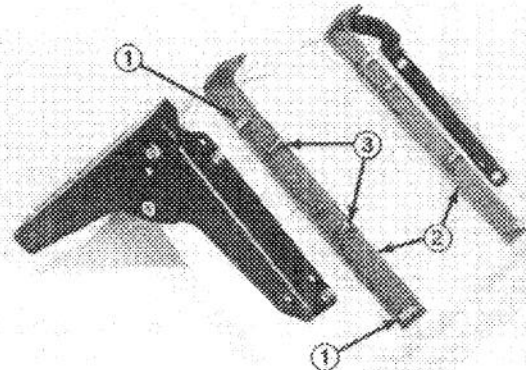

Figure 2
1. Aligning outside mounting holes of seat mounts with mounting holes in seat, position two (2) capscrews and lockwashers for each seat spring thru seat mounts as shown in Fig. 2. Secure each seat mount, capscrews and lockwashers to seat with two (2) capscrews and lockwashers (Fig. 2).